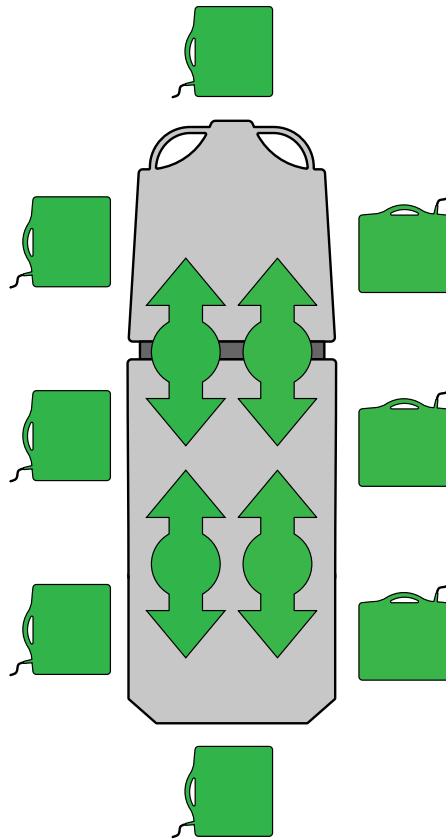

Figure 21 – Inserting or removing X-ray cassettes
1. Center the patient on the product with the position indicator labels located on all sides of the product (Figure 21).